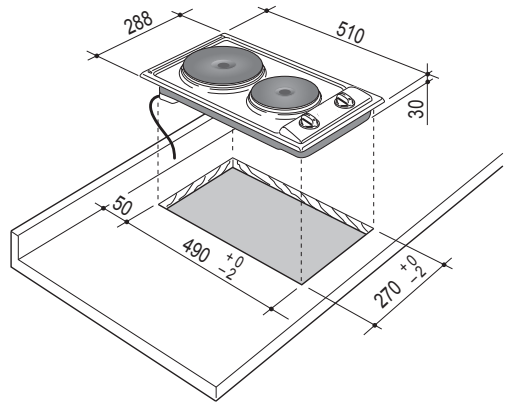

Fig. 1.1
In order to install the cooker top into the kitchen fixture, a hole with the dimensions shown in fig. 1.1 has to be made, keeping in consideration the following:
- the cooker top must be kept at a distance of no less than 50 mm from the rear wall (fig. 1.1);